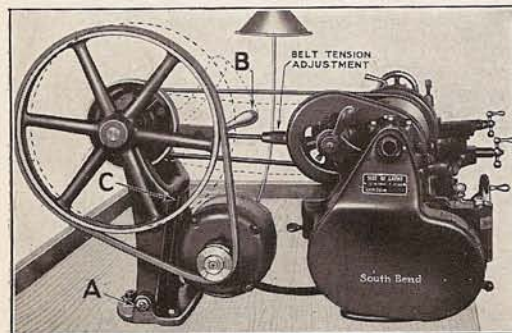

Fig. 2. Improved Adjustable Belt Tension Countershaft for Horizontal Motor Driven Lathes.
**Belt Release Lever** (B Fig. 2) permits the countershaft to tilt forward on pivot (A Fig. 2) which relieves the cone pulley belt tension and permits easy shifting of the belt from one step of the cone pulley to another. A separate adjustment is provided for adjusting the belt tension for any desired pulling power and for taking up the stretch in the belt.
The  $\frac{1}{4}$  H.P. Reversing Motor has independent tension adjustment for the V-belt (C Fig. 2). The motor may be connected to an electric lamp socket.